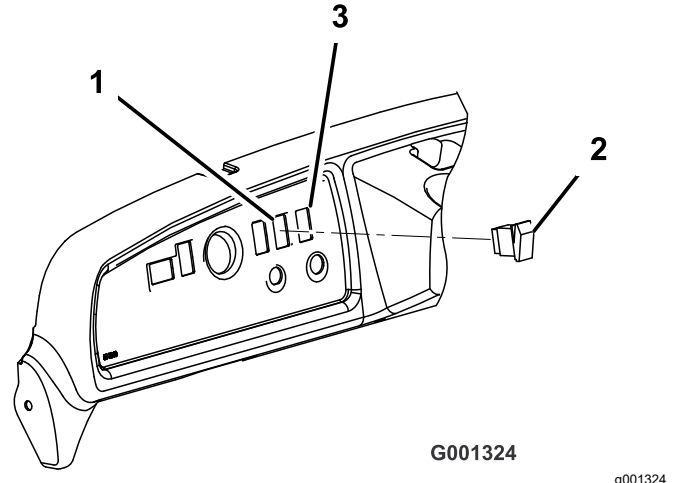

Figure 7
2. Remove the plug from the dash panel, to the right of the steering column and above the key switch (Figure 7).
5. Press the up-paddle of the bed-lift switch to extend the actuator (Figure 7).
6. Align the up-paddle to the 12 o'clock position and insert the bed-lift switch into the opening in the dash (Figure 7).